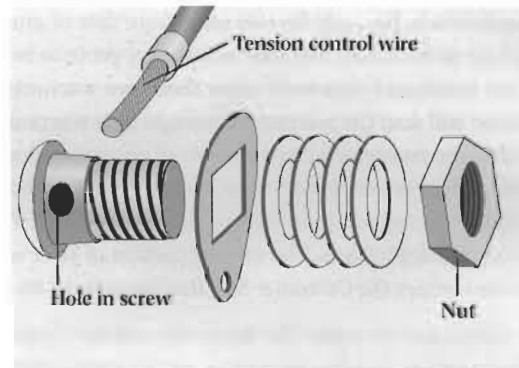

Figure 7
- Use an adjustable wrench to loosen the nut on the tension control wire assembly (Figure 7). You do not need to remove the nut.
- If the treadmill belt is too tight, pull the tension control wire from the hole in the screw to decrease the length of the wire that will protrude from the hole in the screw (Figure 7).
- If the treadmill belt is too loose, pull the tension control wire through the hole in the screw so that more wire will protrude from the screw (Figure 7). Replace the nut and tighten it.